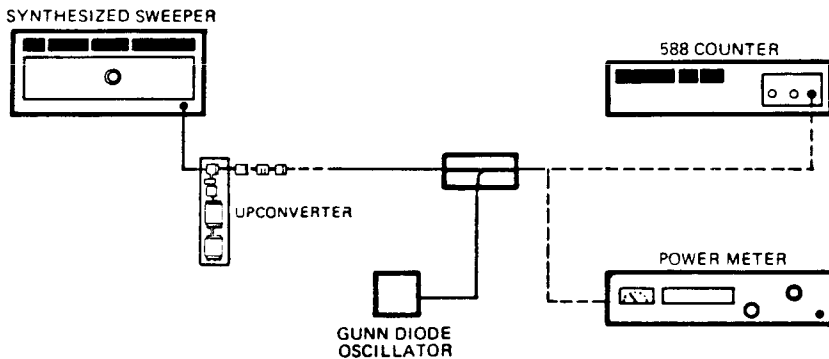

Figure 4-14. Band 3 Amplitude Discrimination Test Setup
1. Connect equipment as shown in Figure 4-14.